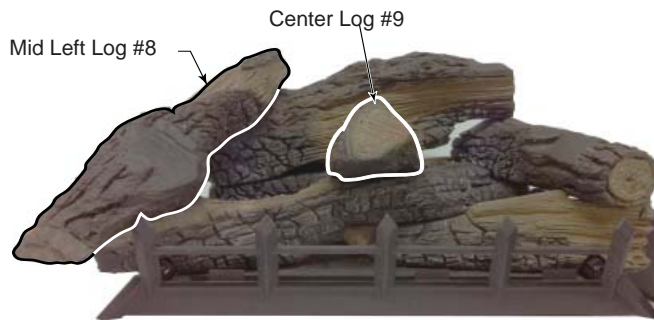

Figure 48
9. Place center log (#9) onto front bottom left log (#5) by placing notch on bottom of log #9 onto locating block on log #5. The flat triangle-shaped end of log #9 should be towards front with pointed end of log resting on bottom rear log (#1). *Figure 48*